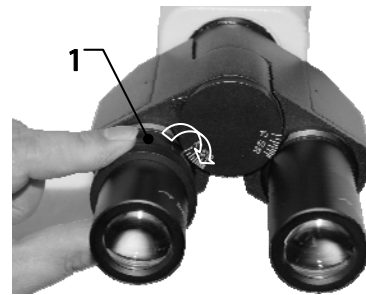

Fig.6
(1) Turn 50X objective into optical path, observe micro-image in right eyepiece which the eyepiece tube has no diopter adjusting ring, and focus to make micro-image clear
(2) Observe micro-image in left eyepiece only. If the image unclear, it is necessary to adjust the diopter adjusting ring 1 to make image clear. The diopter adjusting range is $N=\pm 5$ diopters, as shown in Fig.6.